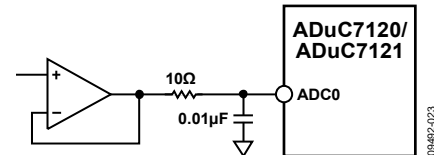
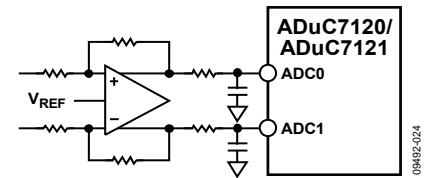

Figure 25. Buffering Single-Ended/Pseudo Differential Input
Figure 26. Buffering Differential Inputs
For ac applications, removing high frequency components from the analog input signal is recommended with a resistor capacitor (RC) low-pass filter on the relevant analog input pins. In applications where harmonic distortion and SNR are critical, drive the analog input from a low impedance source. Large source impedances significantly affect the ac performance of the ADC and can necessitate the use of an input buffer amplifier. The choice of the op amp is a function of the particular application. Figure 25 and Figure 26 give an example of an ADC front end.